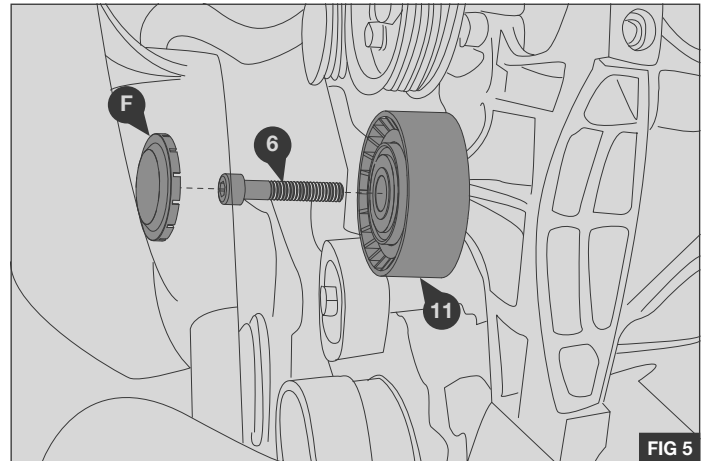

FIG 5
1. Fit the supplied Idle pulley (11) to the original auxiliary mounting bracket using the supplied M8 x 45 bolt (6) - Fig.5
2. Torque bolt (6) 29Nm / 21lb.ft. using a calibrated torque wrench.
3. Fit the supplied idle pulley bearing cover (F)